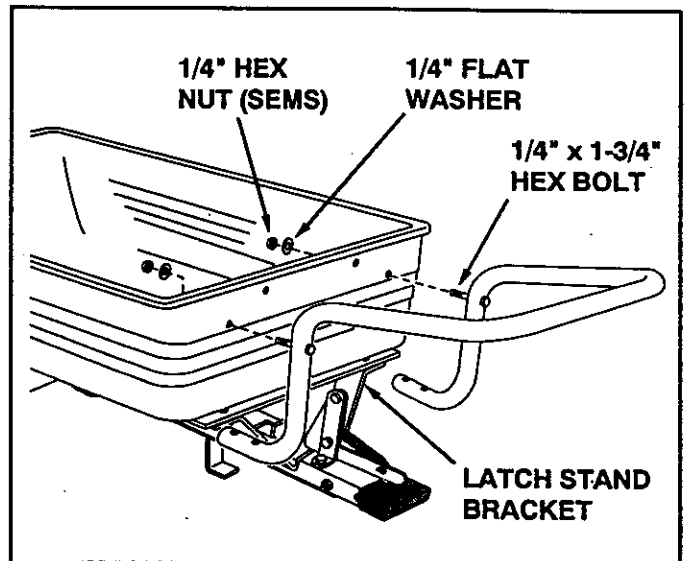

FIGURE 8
- Insert two 1/4" x 1-3/4" hex bolts through the handle tube as shown in figure 8. Holding the bolts in place in the handle, insert the bolts through the holes in the poly tray, allowing the legs of the handle to slip beneath the latch stand bracket. Secure the two bolts with two 1/4" flat washers and 1/4" (SEMS) hex nuts. **Do not tighten yet.** See figure 8.